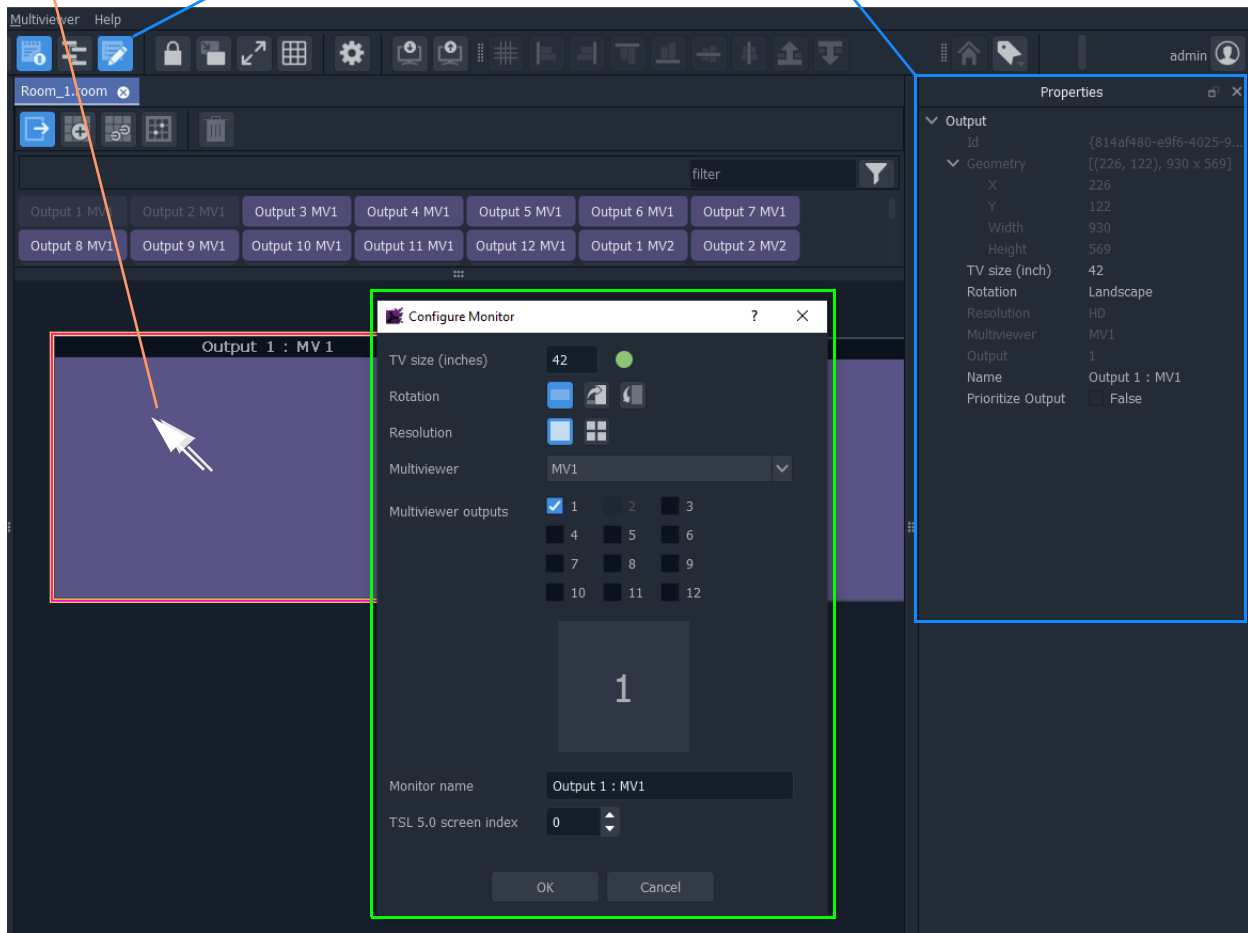

Fig. 15-15: Configure Monitor Dialog
The **Configure Monitor** dialog is shown (see Figure 15-15), where monitor properties can be changed.
- Select the 'Properties Window' button in the main tool bar. See Figure 15-15.)